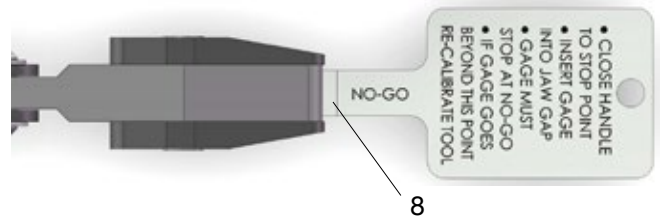
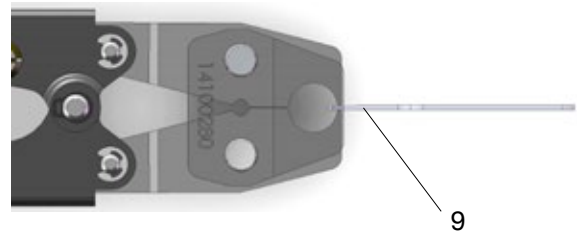

Fig. 8: Insert Gauge
Fig. 9: Insert Gauge (side view)
2. Insert GO/NO-GO Gauge into jaw gap (Fig. 8 and Fig. 9).